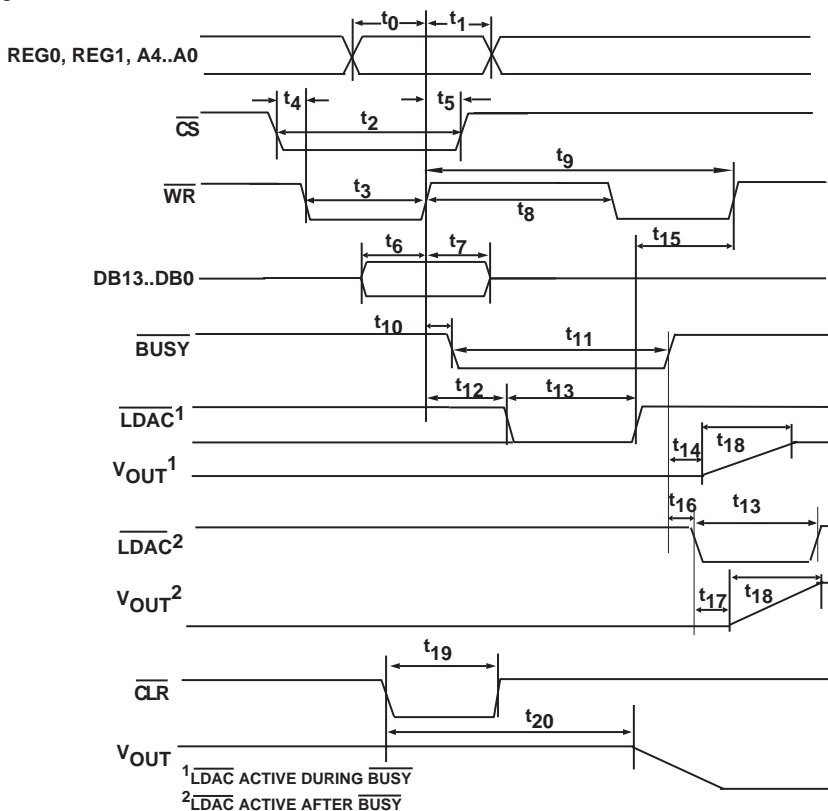

Figure 6. Parallel Interface Timing Diagram
- 3See Timing Diagram in Figure 6.